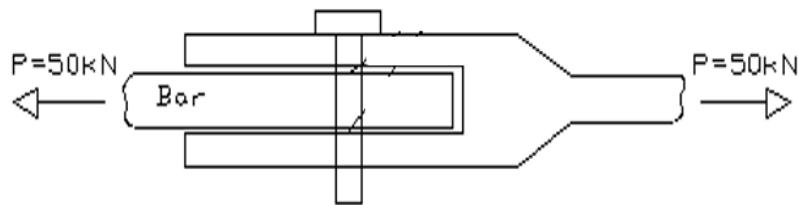

Figure 2(c)
- (c) A bar, as shown in Figure 2(c), is pulled with a force of 50 kN. Calculate: